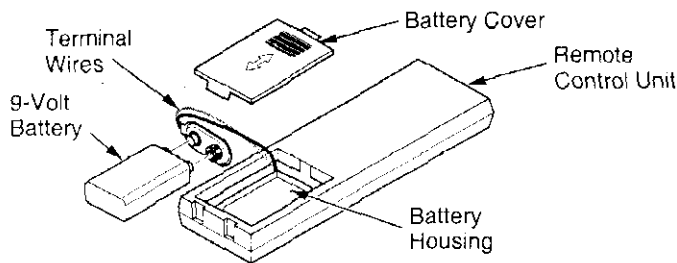

**Figure 38 - Installing Remote Receiver**
7. Connect wires as shown in Figure 38, page 21.
8. Install remote receiver unit onto fireplace base using the two screws removed in step one (see Figure 38, page 21).